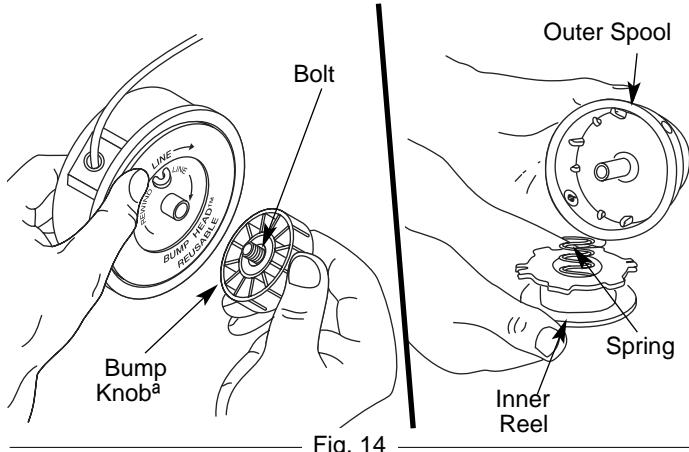

Fig. 14
1. Hold the outer spool with one hand and unscrew the Bump Knob counterclockwise (Fig. 14). Inspect the bolt inside the bump knob to make sure it moves freely. Replace the bump knob if damaged.
2. Remove the inner reel from outer spool (Fig. 14).
3. Remove spring from the inner reel (Fig. 14).
1. Hold the outer spool with one hand and unscrew the bump knob counterclockwise. Inspect the bolt inside the bump knob to make sure it moves freely. Replace the bump knob if damaged (Fig. 14).
2. Remove the old inner reel from the outer spool (Fig. 14).
3. Remove the spring from the old inner reel (Fig. 14).